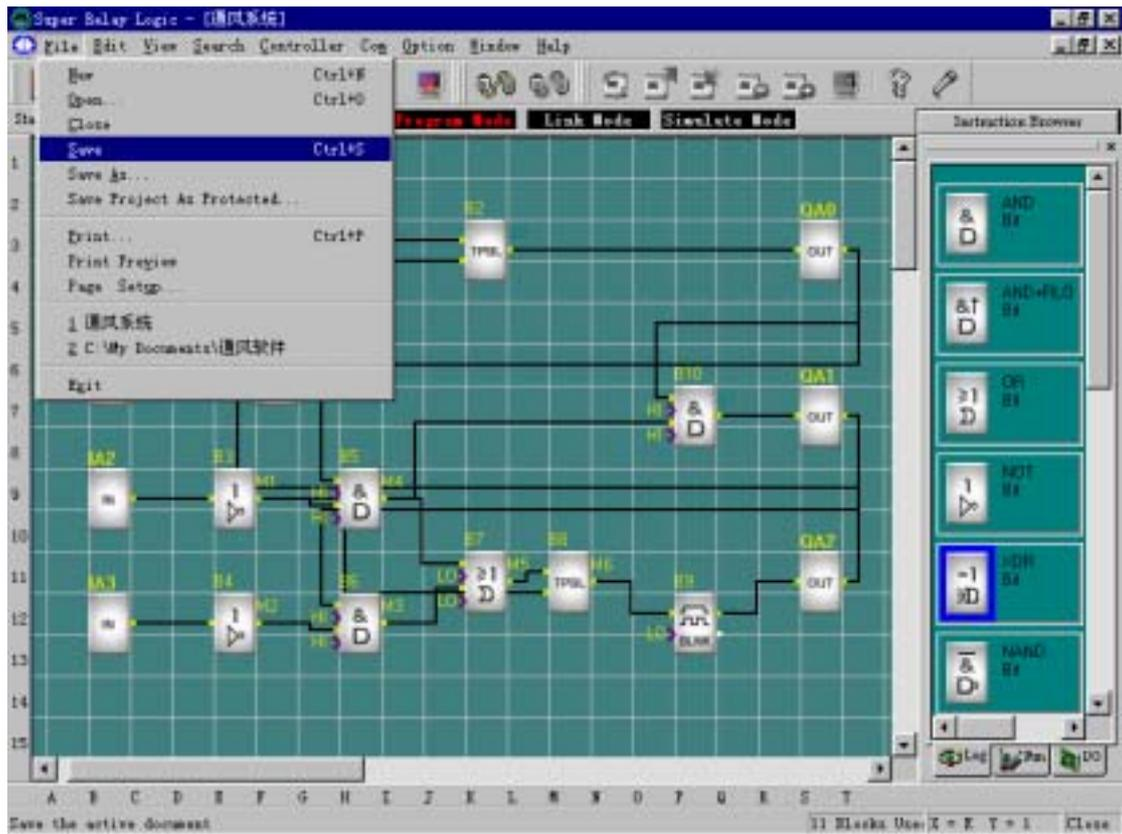

Fig 4.13 Save File Menu
1. To save a programme, click option “save” or “Save As” under menu “File” with left button of the mouse, as shown in Fig 4.13, or click button “” under toolbar.